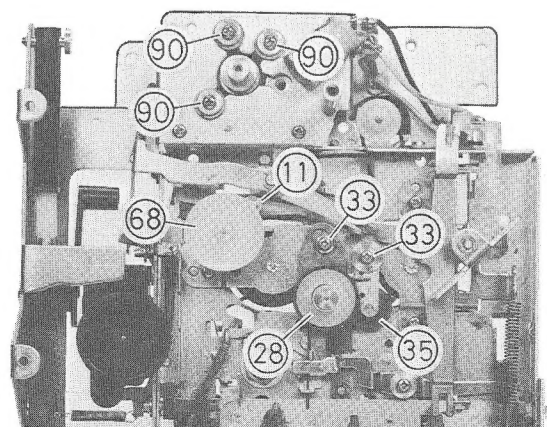

Fig. 23
**I. FF Arm Ass'y (28) (Refer to Fig. 23)**
**J. Idler Ass'y (35) (Refer to Fig. 23)**
**K. Take-up Lever Ass'y (68) (Refer to Fig. 23)**